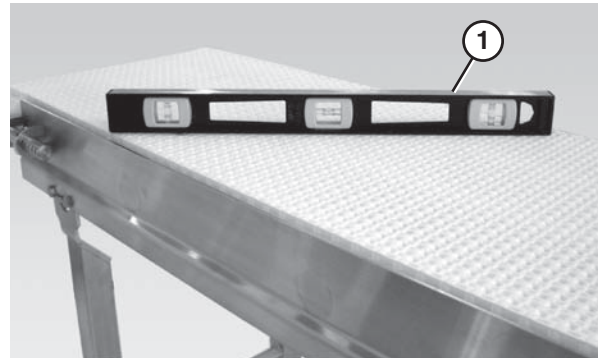

Figure 19
4. Use a level (Figure 19, item 1) to verify that both stand legs are the same height.